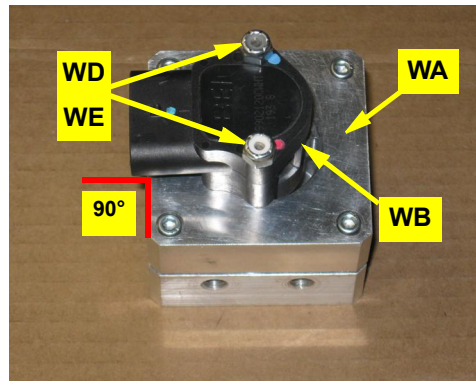

Figure 1a: Prepared WAS housing/connector
- a. Using the provided hardware **WE** (nuts) and **WD** (bolts - not visible), attach the WAS wire connector (sensor) **WB** to the WAS housing **WA**. Install the bolts up through the bottom of the housing. Mount the WAS wire connector **WB** at 90° to any of the WAS housing **WA** sides (Figure 1a).